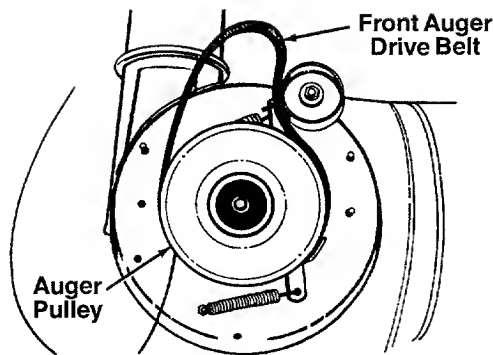

FIGURE 23
- Separate the housing from the frame assembly by standing in the operating position and lifting up on the handles. The frame and housing will separate, and the rear auger drive belt will come off the pulleys. See figure 23.
- To remove the front auger drive belt, push the idler pulley to the left, and lift front auger drive belt from the front auger pulley. See figure 23. Replace both auger drive belts by following the preceding instructions.